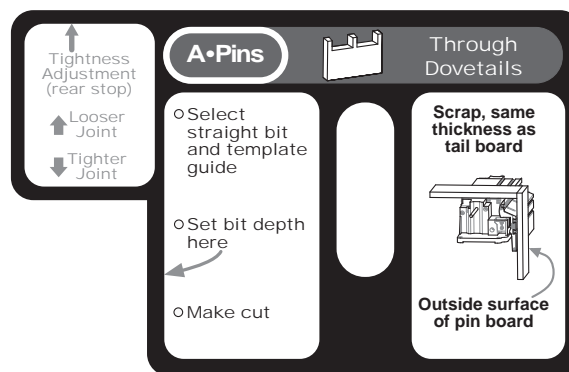
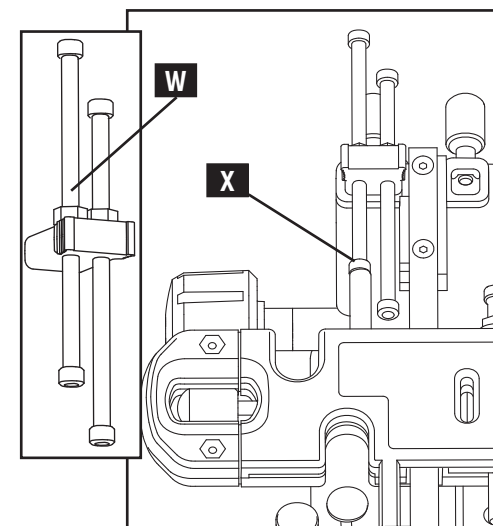

Fig. D14
Fig. D15
The fix for a tight or loose joint can be found on the "A Pins" label (Fig. D14) of the variable fingers template. If the joint needs to be looser, the stops need to be adjusted by loosening hex nut (W) Fig. D15 and turning stop screw (X) clockwise so the stop will move back slightly. If the joint needs to be tighter, turn the screw (X) counter-clockwise so the stop will move forward slightly. After this fix, replace the template on new stop positions and re-cut the pinboard.